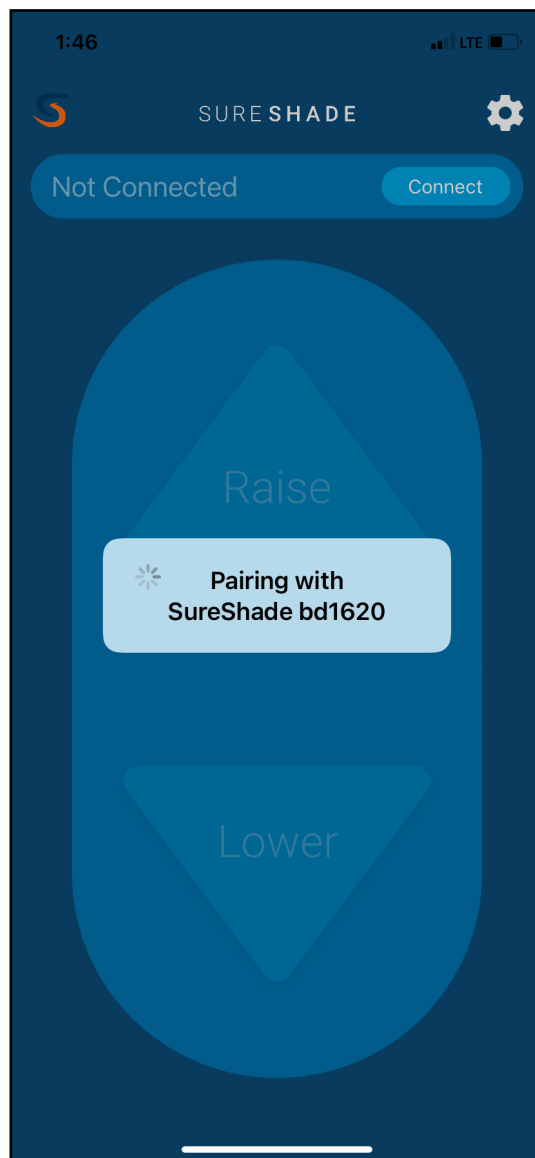

Fig.54
H. The touch-sensitive controller will begin pairing itself with the smart device (Fig.54).